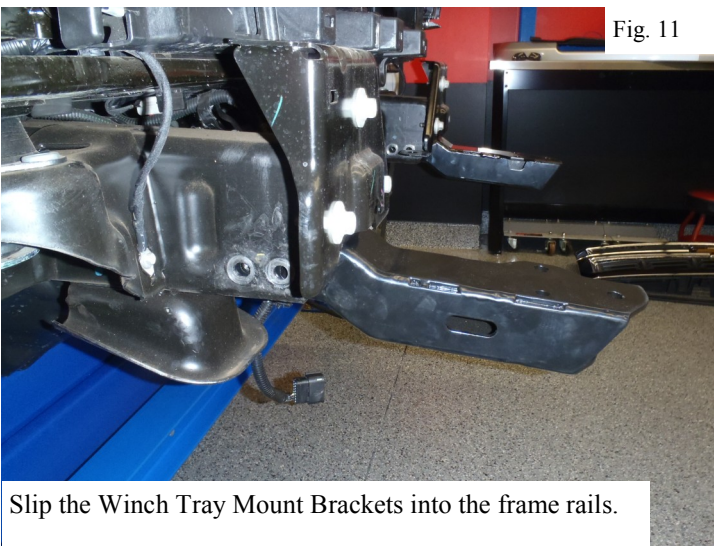

Fig. 11
6. Slip the supplied winch tray mounting brackets into the frame rails and loosely secure them with the supplied M12 hardware (Figures 11 & 12). Note: The thick M12 washers are placed inside the large holes in the bottom of the frame then secured in place with the wide M12 washers, lock washers and hex bolts.